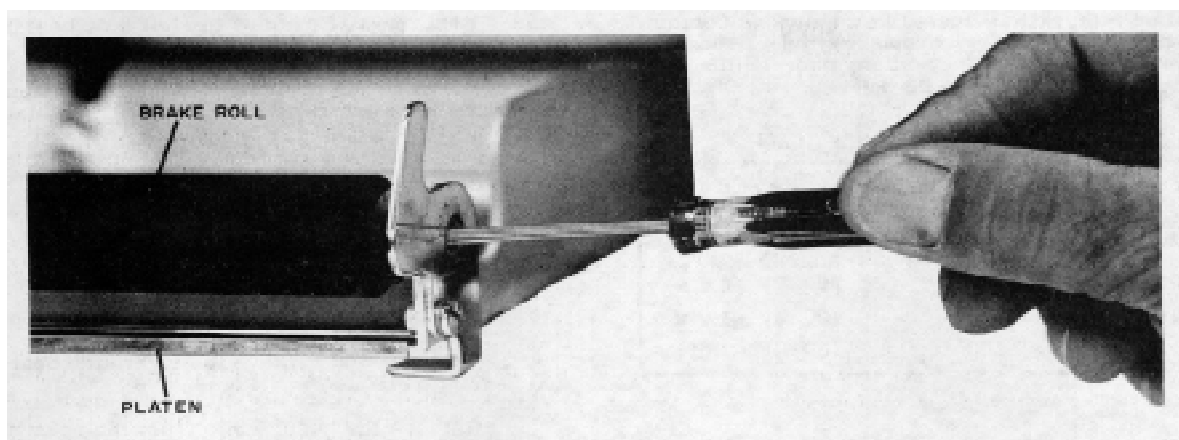
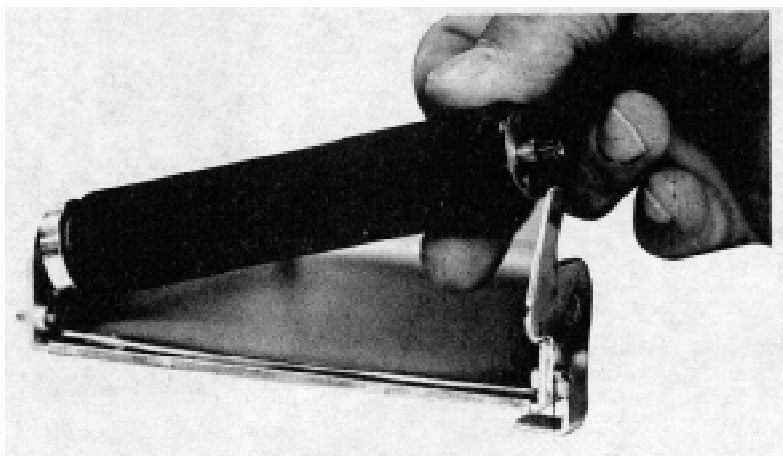

Figure 5-3. Brake Roll Adjusting Screw Location
Figure 5-4. Brake Roll Removal
a. To lubricate the Brake Roll, remove it from the recorder. Turn the Brake Roll Allen-head screw at the right end of the Brake Roll counter-clockwise until the screw is almost flush with the collar (see Figure 5-3). Push the spring-loaded screw until the right end of the Brake Roll can be pivoted upward. Pull the Brake Roll out of the left table flange as shown in Figure 5-4.
5-26 Permapaper in recorder. Unlock and open the paper table. Insert Allen wrench into the end of the Brake Roll, as shown in Figure 5-3. Turn the screwdriver five turns counterclockwise, thus releasing the brake mechanism in the Brake Roll.